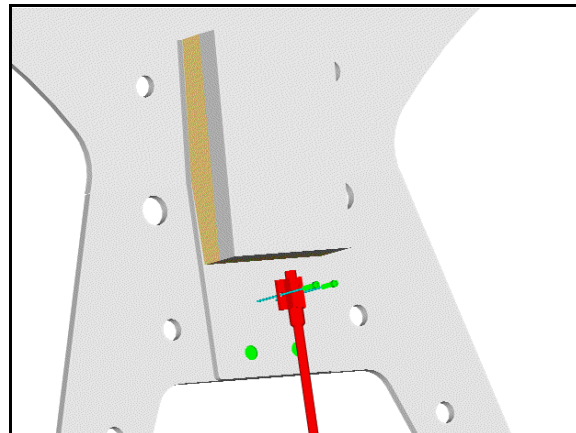

Figure 7.15- Attachment of uniaxial accelerometer to Mid-Sternum Assembly
17. The THOR dummy was designed with a set of mounting holes for a uniaxial accelerometer (T1INM110) on the mid-sternum plate. The accelerometer can be mounted at this time using two #0-80 x 1/8" SHCS {0.050} as shown in **Figure 7.15**. The bolts should be tightened securely, but excessive force is NOT required.